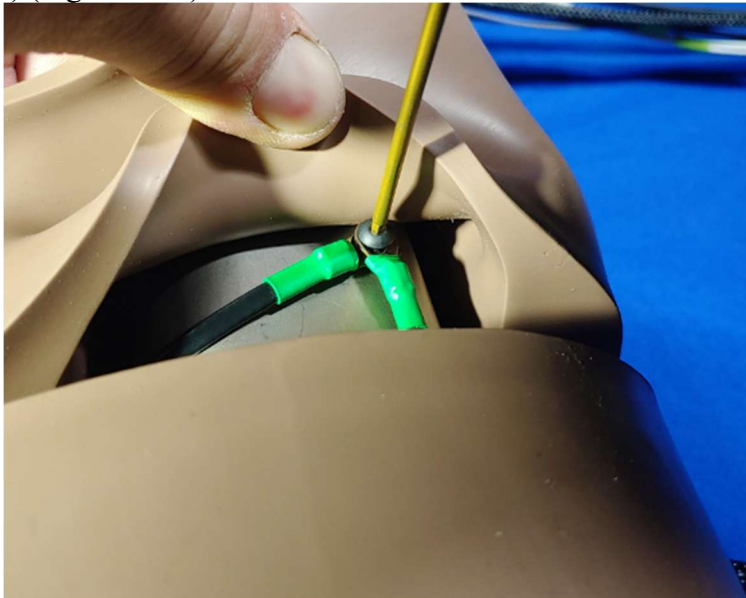

Figure 9-49. Attach the femur and pelvis ground wires to the Femur Assembly (474-4700-1,2).
- 9.4.2 Attach the femur and pelvis ground wires to the Femur Assembly (474-4700-1,2) (Figure 9-49).